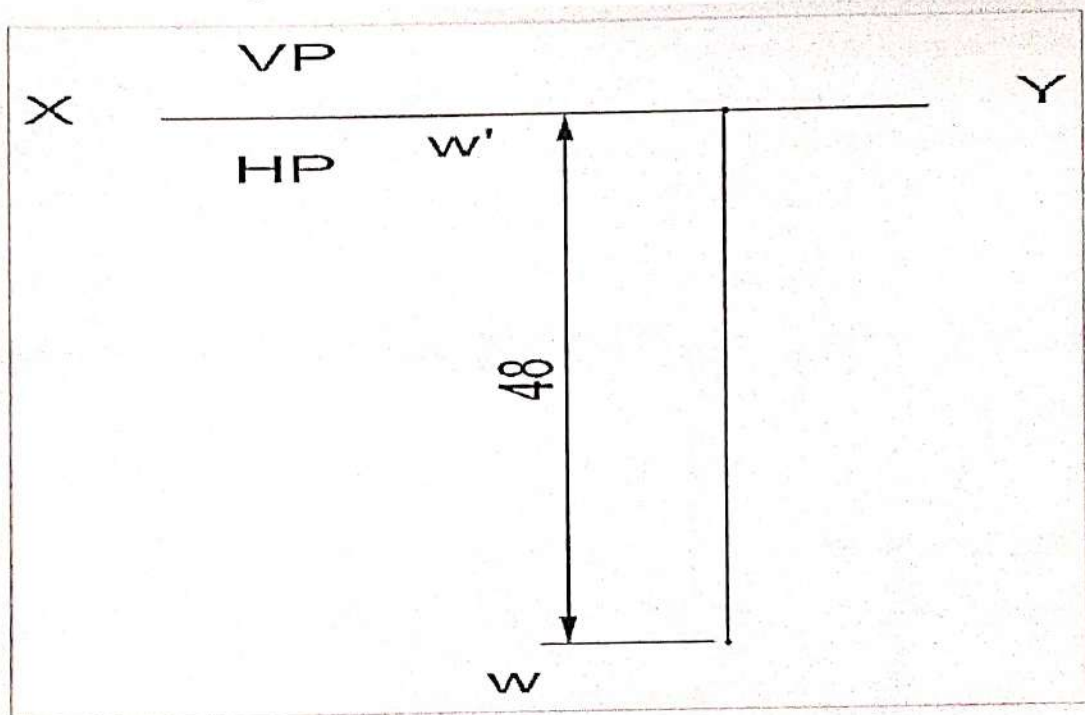

Fig 5.11
- iii. Draw the reference line XY. Mark the side view at any point on XY and top view at a distance of 48 mm from XY as shown in fig 5.11.